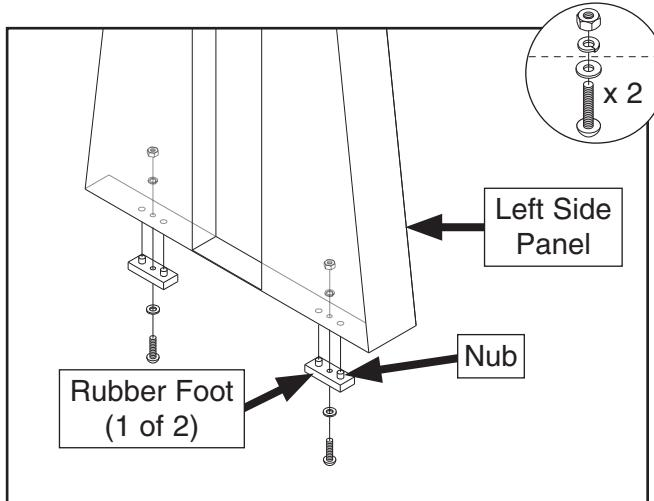

Figure 7. Machine feet and fasteners.
1. Attach (2) rubber feet to left side panel with (2) $5\frac{1}{16}$ "-18 x $\frac{3}{4}$ " slotted screws, $5\frac{1}{16}$ " flat washers, 8mm lock washers, and $5\frac{1}{16}$ "-18 hex nuts (see **Figure 7**).
Note: Nubs on feet should face up to seat in holes in bottom of panel (see **Figure 7**).